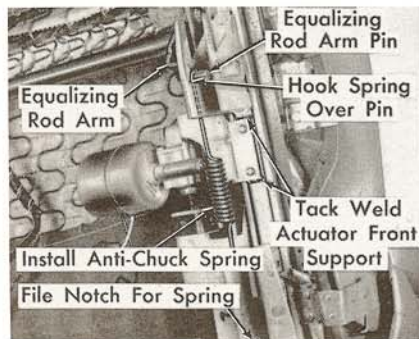
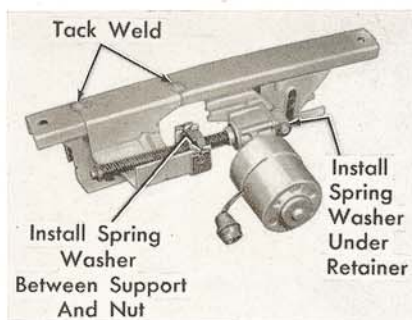

Fig. 4
Fig. 5
1. Remove seat side panels. Install an anti-chuck spring, Part No. 4734125, at both the right and left seat adjuster, as shown in Fig. 4. NOTE: File notch for spring in rear leg of adjuster approximately $\frac{1}{2}$ " up from bottom of leg.
3. Place equalizing rod in vise. Check arm and pin (shown in Fig. 4) on each end of equalizing rod for looseness, and if loose, weld securely.
4. On the left seat adjuster, tack weld (arc weld) the actuator front and rear supports, as shown in Fig. 4 and Fig. 5.
5. Install spring (wavy) washer, Part No. 4574152, between actuator rear support and jack screw nut, as indicated in Fig. 5.
6. Install spring (wavy) washer, Part No. 4574152, between actuator and retainer at actuator front support, as shown in Fig. 5.